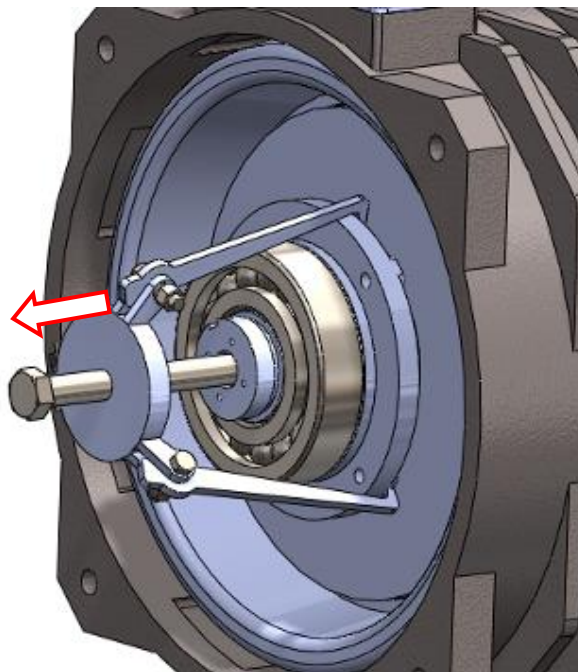

Figure 103: Remove Bearing and Inside cover
8. Use the bearing puller to dismantle the Bearing and Inside cover together. (Cutting the bearing off is permissible.) See Figure 103.